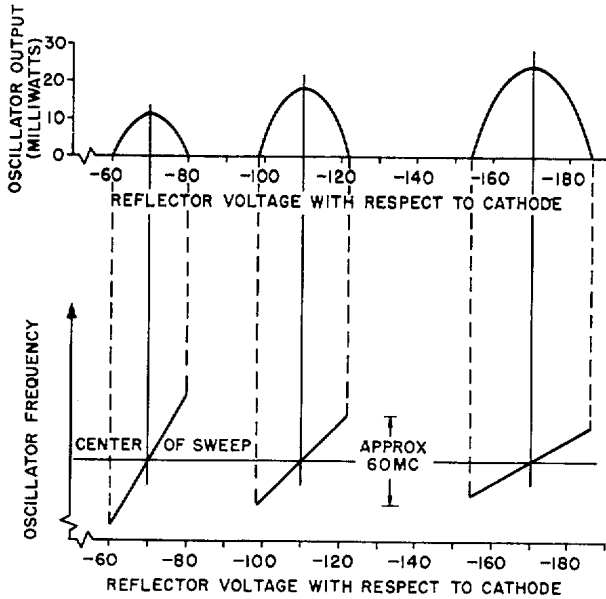

Figure 2-21. Reflex Klystron Characteristics
(2) There are two methods of tuning a reflex klystron tube. The first is to tune it mechanically by varying the volume of the resonator chamber. The tube is mechanically tuned by turning the squareheaded nut mounted on it and is covered by about 3 1/4 turns of the SIGNAL FREQUENCY knob.
(3) The other method of tuning the oscillator is to vary the reflector voltage. When the voltage is correct, the transit time and bunching of the electrons will sustain oscillation at the natural resonant frequency of the cavity. If the reflector voltage is varied slightly, the rate at which electron bunches arrive at the resonator cavity will change. This will cause a change in frequency, and also the power will drop as the frequency moves away from the natural resonant frequency of the cavity. (See figure 2-21.) Varying the reflector voltage
minus 75, minus 110, and minus 170 volts with respect to the cathode. The relation of power output and frequency to reflector voltage is shown for three modes in figure 2-21. These curves are general, and not precise for any one tube of the 2K25 type. They indicate that the power output of the tube is greater in the modes with more negative voltage on the reflector. However, the range of frequency sweep within each mode decreases with increasing negative reflector voltage. Between the half-power points of the minus 75 volt mode, the frequency range is approximately 60 megacycles. In the 110 volt mode, the frequency range is approximately 35 megacycles, and in the 170 volt mode, it is approximately 25 megacycles. Frequency data for the 30 volt mode have not been determined accurately because of erratic and undependable behavior. The reflex klystron 2K25 used in Test Set TS147D/UP does not use the full range of the available frequency excursion described in the foregoing data. (See par. 3d (3) and (4).)